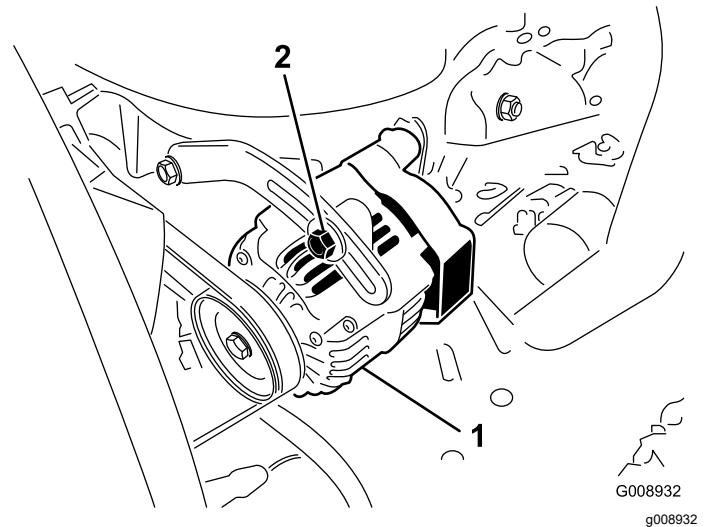

Figure 84
2. If the deflection is not 10 mm (3/8 inch), loosen the alternator mounting bolts (Figure 84).